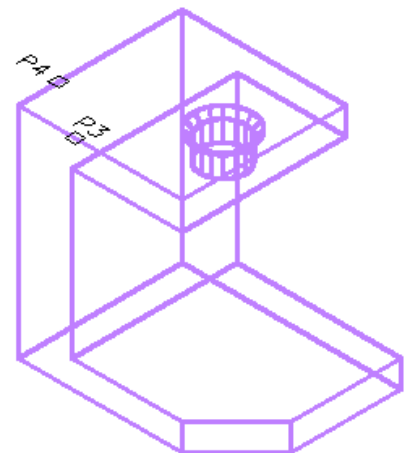

Figure Step 14
Step 14 Enter the CHAMFEREDGE command, as shown below, to create a loop chamfer around the top of the model. (Figure Step 14)